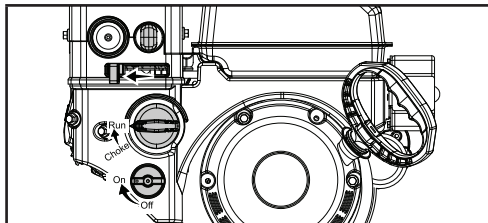

Figure 12B
- b. To start a warm engine, leave the choke lever to the run position (Fig. 12B).
4. Move the throttle lever to full speed to start the engine (Fig. 12B).
5. Use primer control depending on unit's temperature (Fig. 12B):
8. When the engine starts, move the choke to run position (Fig. 12B).